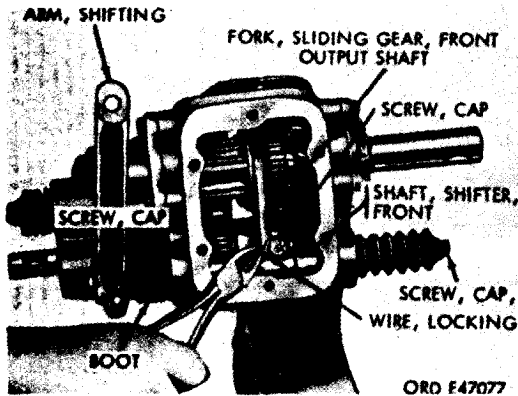

Figure 287. Power takeoff cover removed
- (b) Loosen safety nut from shifting arm (fig. 287) and remove arm. Remove cap screws and plain washer from front of shifter shaft. Use side cutters and cut locking wire from cap screw at front output sliding gear fork, and remove locking wire and cap screws. Pull front shifter shaft out through rear of case and remove front-output-sliding gear fork from case. It is not necessary to remove front-
- (b) Slide front shifter shaft (F) in opening at rear of case with the end opposite step - cut in first. Be careful not to damage oil seal when pushing front shifter shaft in case. Position front output shaft sliding gear fork (K) in case on front output shaft sliding gear (U) and press shaft through sliding gear fork until one of the poppet ball milled slots in the shaft is visible through the ball spring retainer opening in case. Position fork on shaft and align slot in shaft with fork. Install cap screw (L) and locking wire holding fork on shaft.
- (c) Install ball (J), front shifter-shaft ball compression spring (H), and spring retainer (G) in case, making certain the ball engages the milled slot in shaft. Position cover (L, fig. 294) with new cover gasket (M, fig. 294) on case and install six cap screws (K, fig. 294) and lockwashers (J, fig. 294). If boots (C) and boot retainers (D) were removed, install retainers on boots and press into housing. Install cap screw (A) and plain washer (B) on front end of front shifter shaft (F). Install shifting arm (fig. 287) at rear of shifter shaft and tighten safety nut. Install cap screw in end of shifter shaft to secure shifting arm in position.